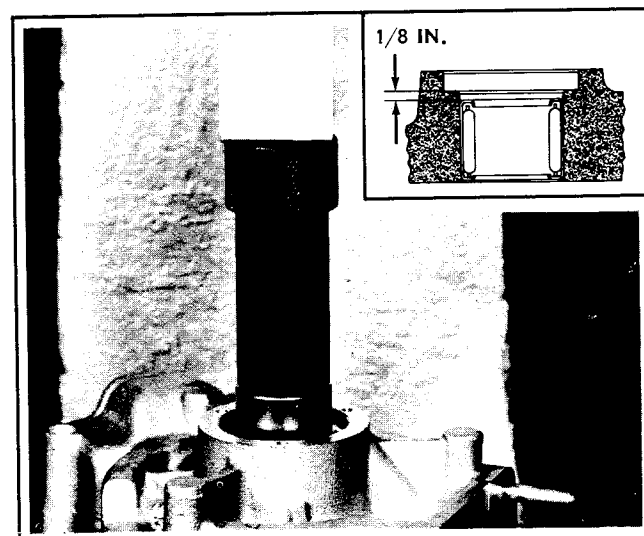

Figure 3E-79. Pressing Transmission Side Bearing into Crankcase
Press transmission shaft main bearing (10) into left crankcase (5), using suitable press plug. Press against "lettered" end of bearing (10) until it is positioned 1/8 (.125) inch below the oil seal shoulder in crankcase (5), as shown in Fig. 3E-79 inset.